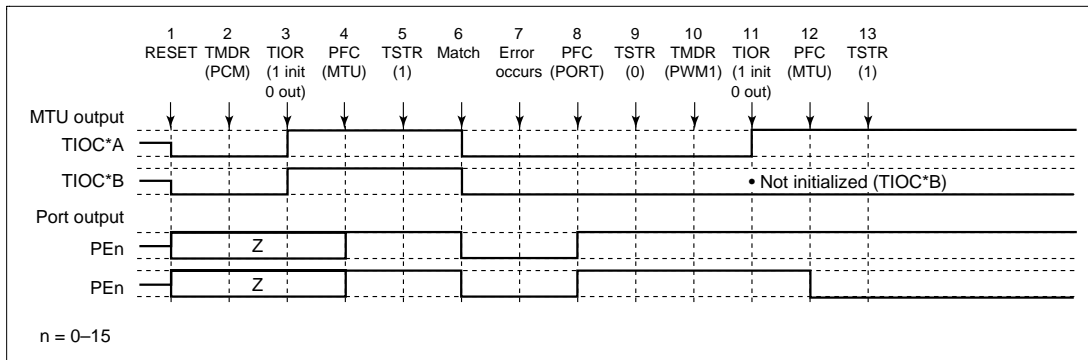

Figure 10.74 Error Occurrence in Phase Counting Mode, Recovery in PWM Mode 1
(14) Operation when Error Occurs during Phase Counting Mode Operation, and Operation is Restarted in PWM Mode 1: Figure 10.74 shows an explanatory diagram of the case where an error occurs in phase counting mode and operation is restarted in PWM mode 1 after re-setting.